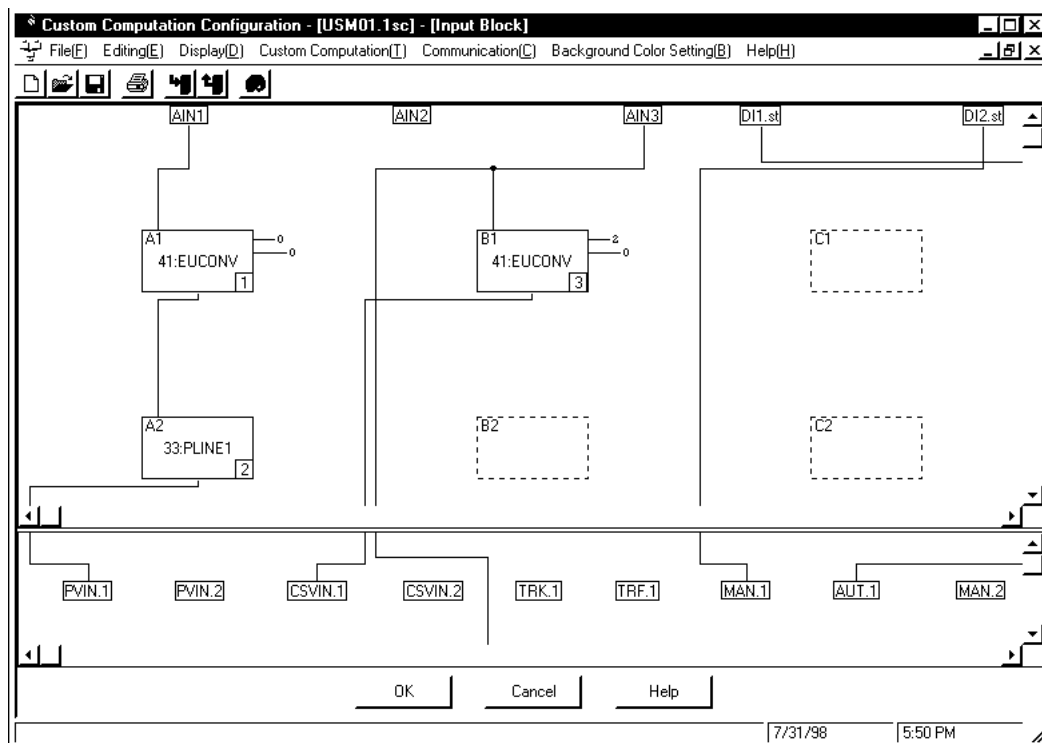

Figure 12.5.3 [Input Block] Dialog Box
- ① In the [Custom Computation Configuration Menu] dialog box (Figure 12.0.2), click <Input Block>. The [Input Block] dialog box (Figure 12.5.3) appears.